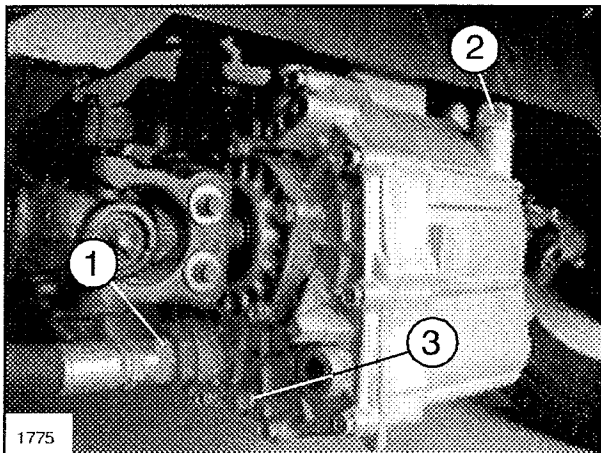

FIG. 24
2. Clean area around transaxle/hydraulic fluid drain plug and remove drain plug from side of reservoir (See FIG. 24), and let transaxle/hydraulic fluid flow into drain pan. Reinstall and tighten when hydraulic fluid stops draining.